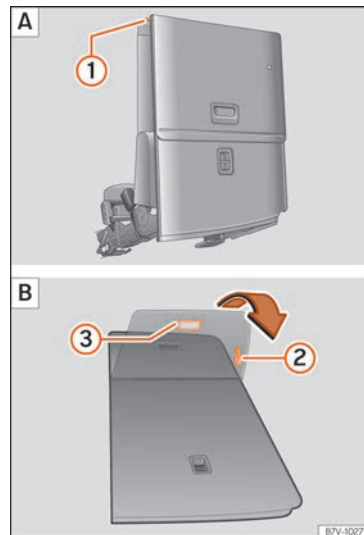

Fig. 144 Third row of seats: folding down the rear seat for loading **A**, putting it back into place **B**.
- If necessary, pull on the lever »» Fig. 144 ❷ to move the seat to the required position.
- When the seat is folded down, no adults or children should travel in it »» ❸.
- Remove objects from the footwell in front of and behind the rear seat »» ❶.
- Pull lever »» Fig. 144 ❶ back and fold the seat backrest forwards. The rear seat folds forward »» ❷ and the cushion also moves forward.
- Pull on the handle »» Fig. 144 ❷ to put the seat tray back in position.
- Pull the handle »» Fig. 144 ❸. The entire seat folds backwards.